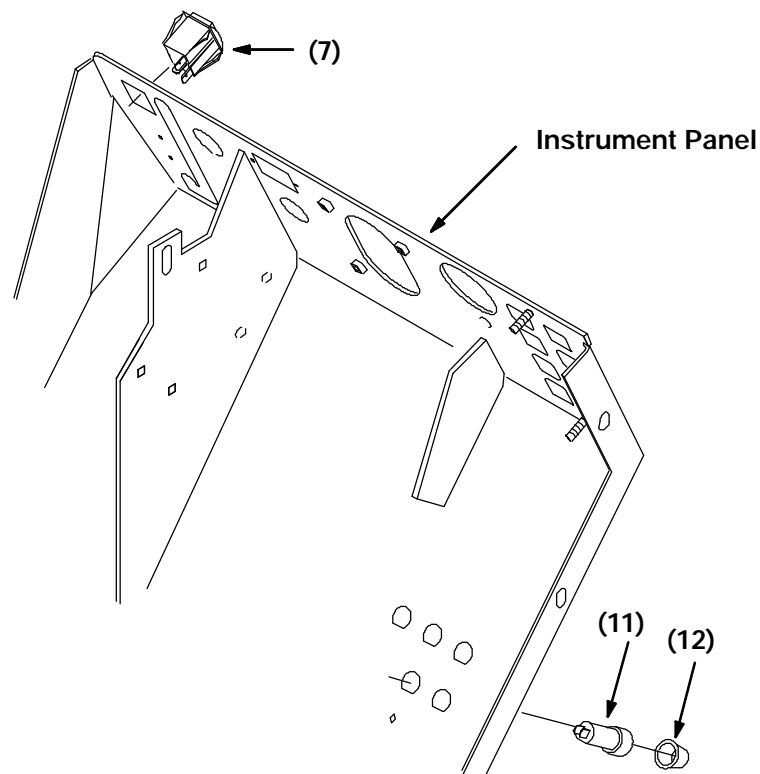

FIG. 2 - Circuit Breaker and Switch Assembly
(Refer to FIG. 2)
4. Remove circuit breaker plug. (Refer to FIG. 2)
5. Plug circuit breaker into the circuit breaker wire harness. (Refer to FIG. 2)
6. Install circuit breaker into instrument panel. (Refer to FIG. 2)
7. Secure circuit breaker from behind with steel lock ring, then cover with boot (12).
8. Remove switch plug. (Refer to FIG. 2)